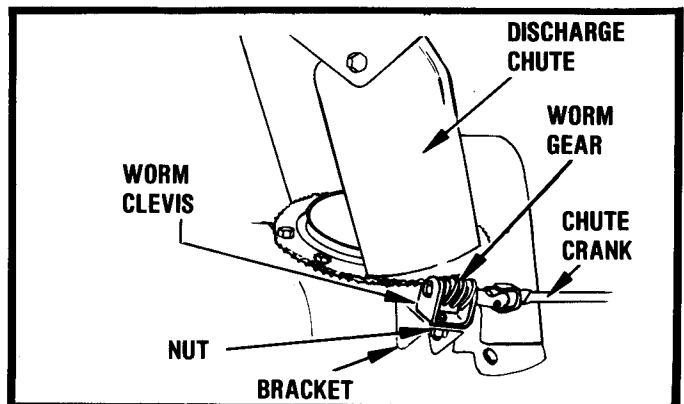

FIGURE 4
## CHUTE CRANK ADJUSTMENT — FIGURE 4
1. Remove the hair pin cotter in the chute crank assembly. Separate the chute crank. See Figure 4.